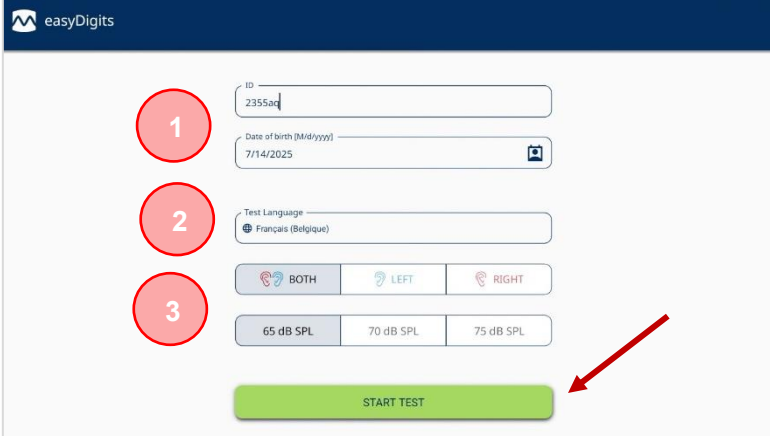

Figure 6
1. Fill in the input fields (1):
2. **Only with displayed test options:** Select the test language (2).
3. **Only with displayed test options:** Select the ear(s) to be tested for testing with headphones or **Aided/Unaided** for testing with speakers (3).
4. **Only with displayed test options:** Select the noise level (3).
5. Press **START TEST** to directly start testing the entered patient (Figure 6).